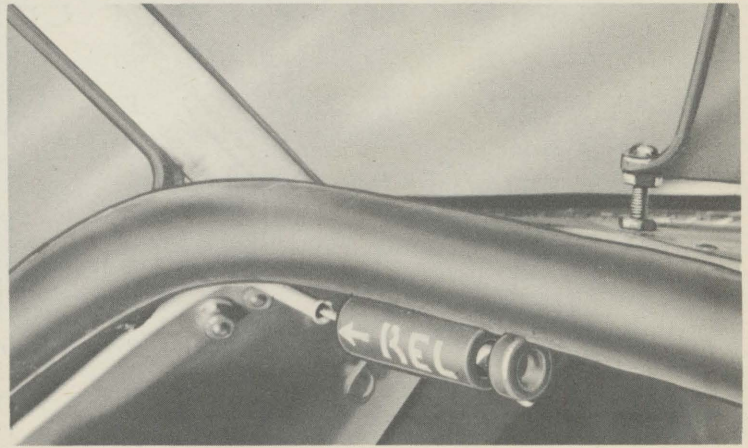

FIG. 2—INSTRUMENT FLYING HOOD RELEASE
2. RELEASE OF THE INSTRUMENT FLYING HOOD (See figure 2.)